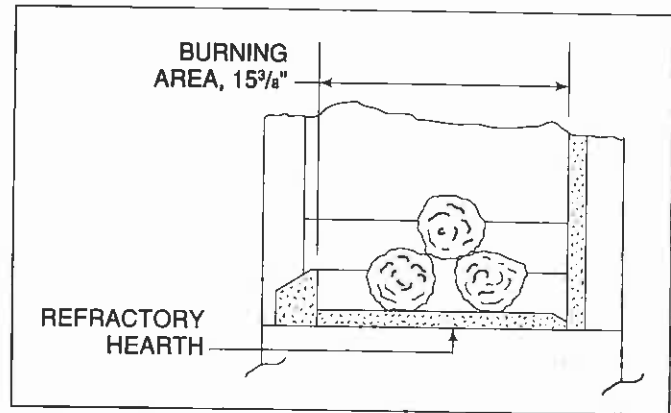

Figure 21
- G. **SETTING THE FIRE.** Check the flue damper to be sure it is fully open. Place crumpled or twisted paper on to the hearth floor. Loosely arrange kindling or small pieces of wood to form a layer above the paper. Place three logs in a rough pyramid as shown in Figure 21, being sure to allow free air space between the logs. Small sticks of wood may be used to separate the logs. Use only solid wood fuel or a listed decorative gas appliance. Do not use a fireplace insert or other products not specified for use with this fireplace. **NOTE:** When heated the first time, the temperature of the fireplace must be raised gradually, to prevent moisture within the refractory from causing cracks, and to allow the binders in the insulation to dissipate.